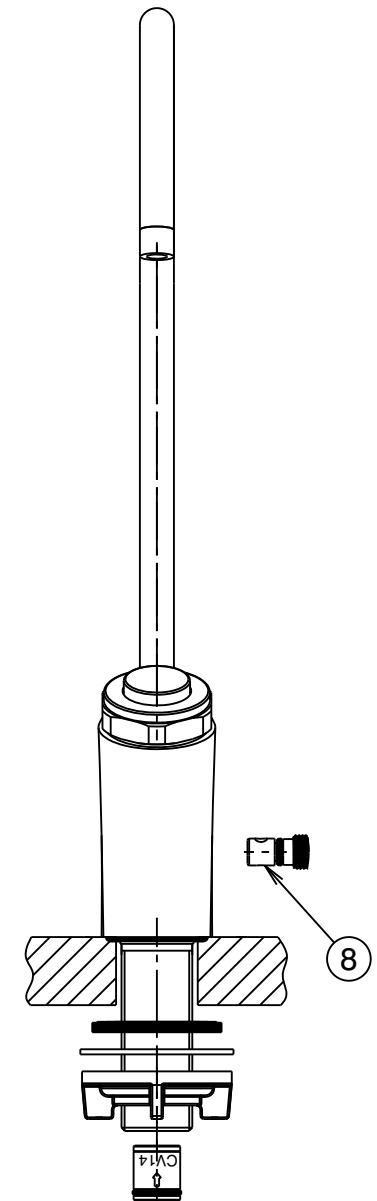

Fig.2
Water flow can be adjusted by turning adjustable screw (8) 1/4 turn maximum with a flathead screwdriver. (See Fig. 2)